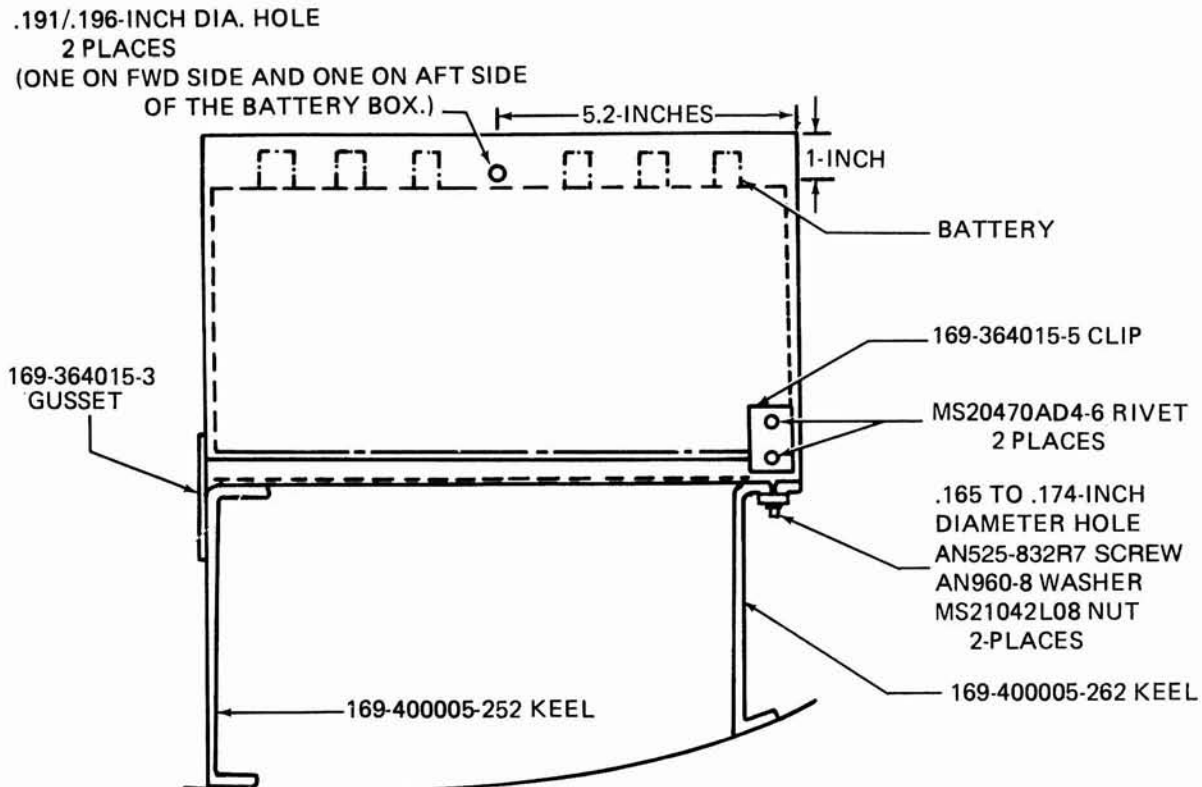

Figure 1
4. Install the 169-364015-5 clip with two MS20470AD4-6 rivets (rivets may be obtained locally) through the side of the battery box. Drill two .165/.174-inch diameter holes and install two AN525-832R7 screws, AN960-8 washers and MS21042L08 nuts down through the 169-400005-262 keel as shown in figure 1.
8. Starting at the outboard end of the battery box, measure in 5.2-inches and down 1-inch, and drill a .191/.196-inch diameter hole through the forward and aft sides of the battery box. (See figure 1.)